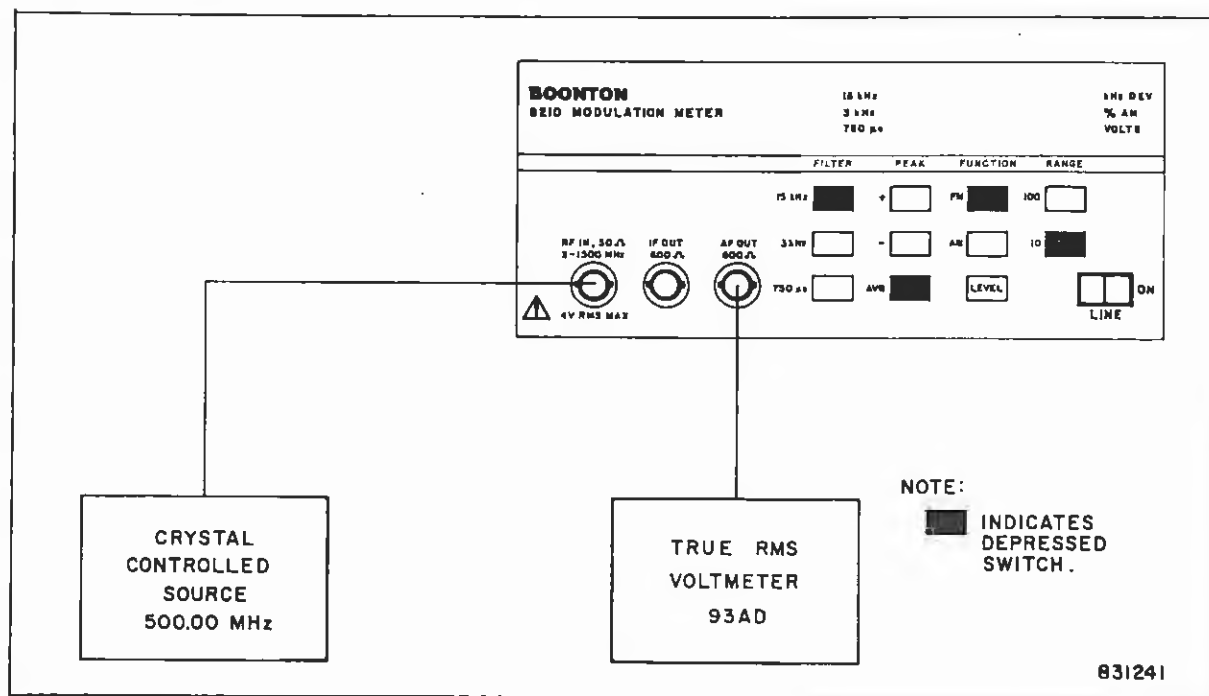

Figure 2-7. Test Setup: Residual F.M. and Residual A.M.
- (1) Connect the 8210 and test equipment as shown in Figure 2-7.
- (2) Apply the 500 MHz signal, at 0 dBm, from the test source to the RF IN connector of the 8210.
- (3) Depress the switches of the 8210 as indicated in Figure 2-7.
- (4) Connect the r.m.s. voltmeter (without 600 Ω termination) to the AF OUT connector on the 8210.
- (5) Set the voltmeter for 100 kHz bandwidth and 30 mV full-scale sensitivity. The voltmeter should indicate less than 13.3 mV (26.6 mV).
- (6) Depress the 8210's 3 kHz FILTER switch. The voltmeter should read less than 10 mV.
- (1) Connect the equipment as shown in Figure 2-7.
- (2) Set the 8210's controls as indicated, but select the AM FUNCTION.
- (3) Set the voltmeter to 100 kHz bandwidth and 100 mV sensitivity.
- (4) The voltmeter should indicate less than 50 mV (70 mV).
- (5) Set the 8210's FILTER to 3 kHz, and voltmeter sensitivity to 30 mV.
- (6) The voltmeter should indicate less than 30 mV.